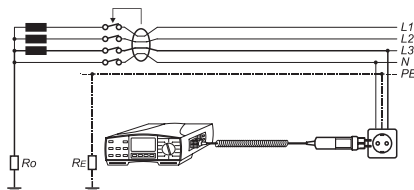

Figure 50: Connection of test leads to COMMANDER 1
- ▶ Connect the test leads to UUT in accordance with Figure 50 or 51. If desired, this connection information can directly be retrieved on the measurement instrument using the key 'HELP'. Repeated pressing of the key 'HELP' indicates the various options for connection.
- ▶ Connect the test leads to UUT in accordance with Figure 50 or 51 (page 34). If desired, this connection information can directly be retrieved on the measurement instrument using the key 'HELP'. Repeated pressing of the key 'HELP' indicates the various options for connection.